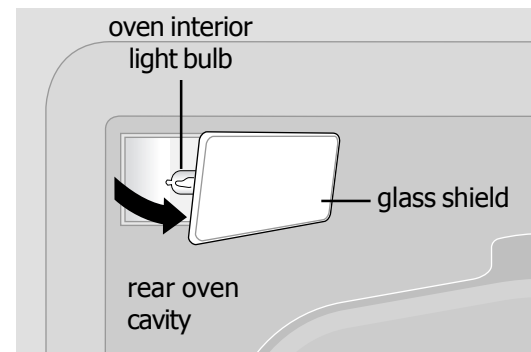

Fig. 1
The interior oven light bulb is located at the rear oven cavity and is covered with a glass shield. The glass shield must be in place whenever the oven is in use (See Fig. 1).
2. Remove interior oven light shield (See Fig. 1).
1. Open oven door completely (horizontal with floor - See Fig. 1).